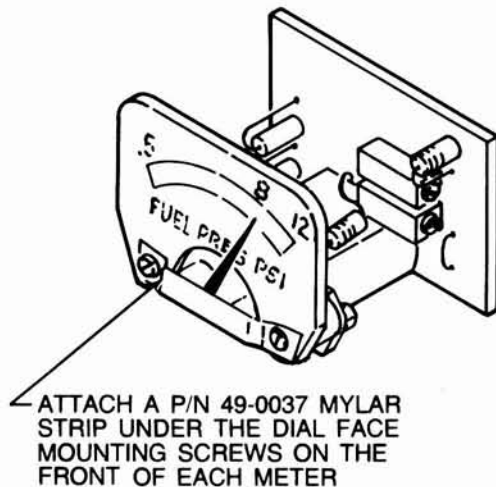

Figure 1
9. Prior to reassembling the cluster, remove any and all tape that may be found around the meter movements and on the inside of the face mask. Install P/N 49-0037 mylar strips on the front of each meter movement by securing the strips under the heads of the screws that attach the dial face to the meter movement as shown in Figure 1.